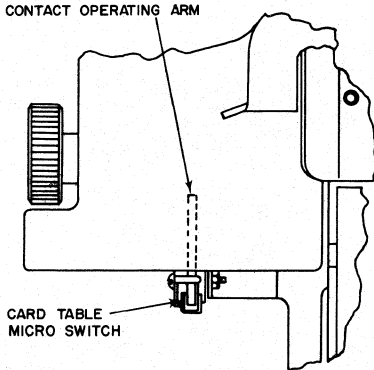

Figure 21
2. In the edge card reader, the same function is provided by the card table Microswitch (also SRT) which should operate before the table reaches its limit of travel in either direction. Form the contact operating arm to obtain this adjustment (Figure 21).